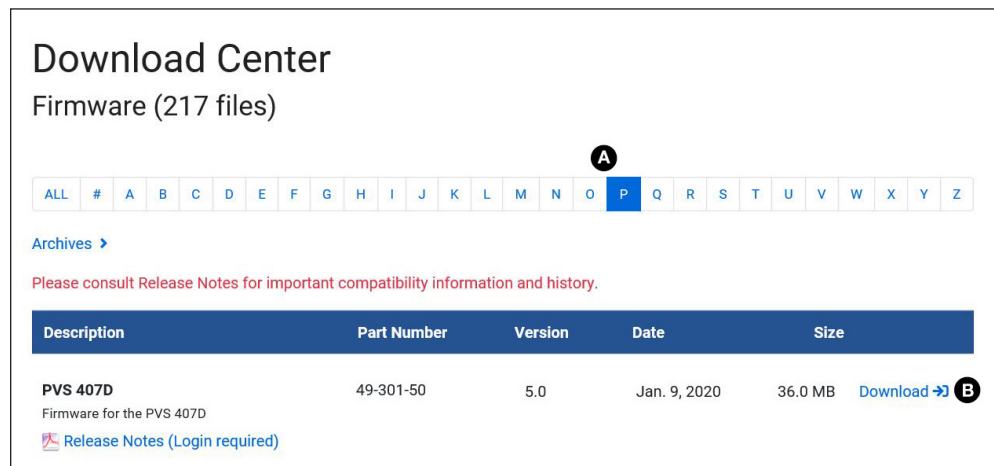

Figure 40. Extron Website Download Center
3. Click **P** (see figure 40, **A**) and scroll to the PVS 407D line.